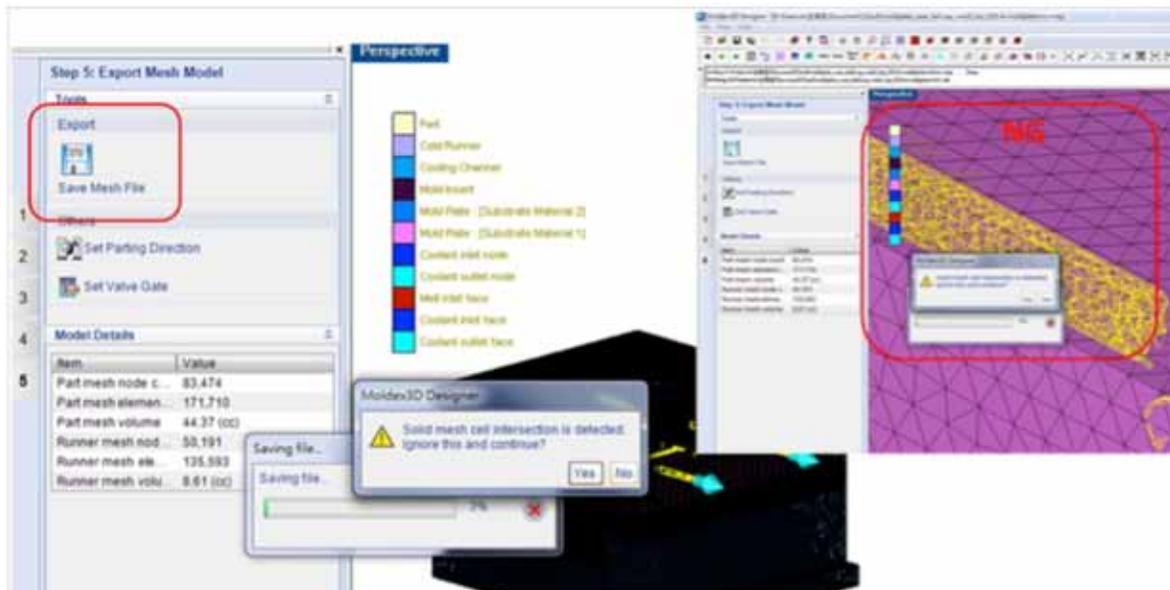

**Figure 2: The three-step node seeding data will be brought to the analysis of the next item.**
3. Node seeding: Set node seeding from the cavity, mold insert to mold plate. The new node seeding capability can automatically bring the node seeding data of the cavity or mold insert edges to the adjacent edges of the mold insert and mold plate. This function enhances the node seeding efficiency of complete mold with multiple components, and reduces size gaps of the node seeding density between the adjacent components (**Figure 2**).